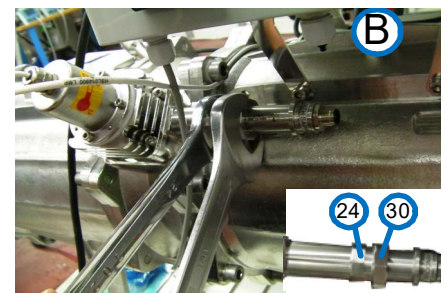

Figure 10-27: Loosening nuts B (Generic View)
- Step 2.** Grip the Sensor casing with wrenches # 24 and # 30, as shown in view B, **Figure 10-27**. The inset shows the wrench #24 in the left hand gripping the casing's left band and wrench #30 in the right hand gripping the casing's large nut on the right.